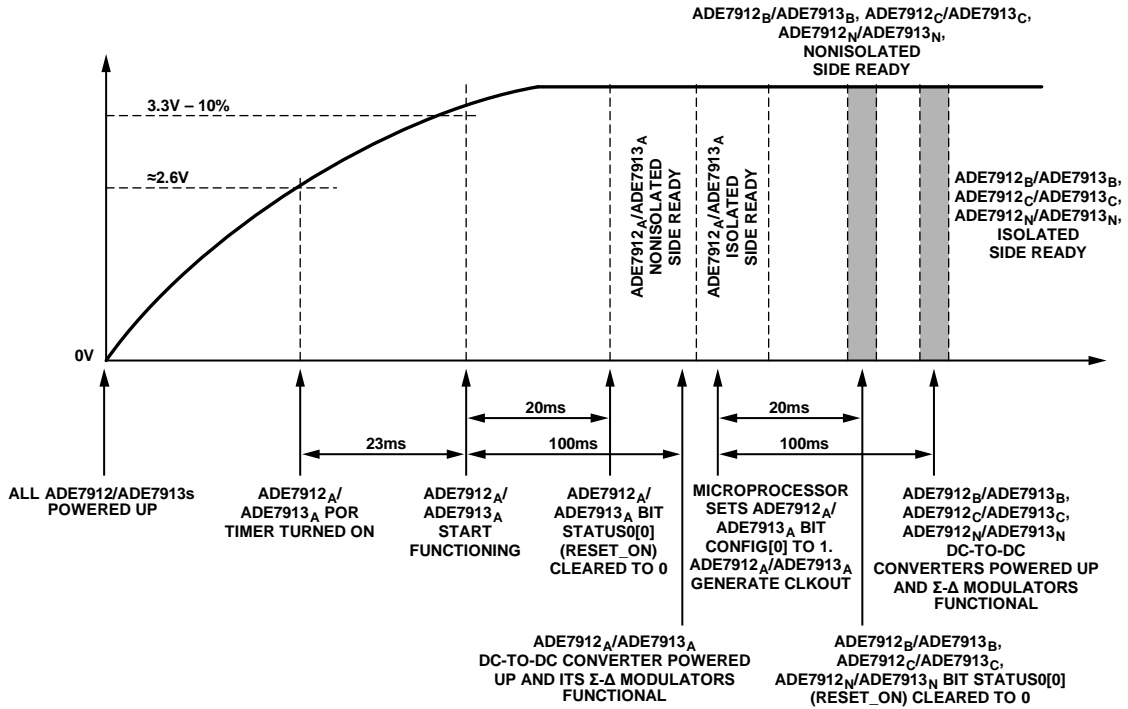

Figure 53. Power-Up Procedure for Systems with Multiple ADE7912/ADE7913 Devices; Only Phase A ADE7912/ADE7913 Are Clocked from a Crystal
For the polyphase energy meters shown in Figure 35, Figure 37, and Figure 38, in which one single crystal is used, the power-up procedure is as follows (see Figure 53):
1. Supply V_{DD} to the ADE7912/ADE7913 devices. To ensure that the Phase A ADE7912/ADE7913 (labeled ADE7912_A/ADE7913_A in Figure 53) device starts functioning correctly, the supply must reach $3.3\text{ V} - 10\%$ in less than 23 ms from approximately a 2.6 V level. The ADE7912_A/ADE7913_A device is clocked by the 4.096 MHz crystal and starts functioning. The other ADE7912/ADE7913 devices are not clocked yet.
8. Initialize the CONFIG register of all remaining ADE7912/ADE7913 devices. Select one ADE7912/ADE7913 device (Phase C ADE7912/ADE7913 in Figure 35, Figure 37, and Figure 38 examples; labeled ADE7912_C/ADE7913_C in Figure 53) and connect its CLKOUT/DREADY pin to an external interrupt I/O pin of the microcontroller. ADE7912_C/ADE7913_C must have Bit 0 (CLKOUT_EN) in the CONFIG register left at the default value of 0 to use the DREADY functionality of the CLKOUT/DREADY pin.